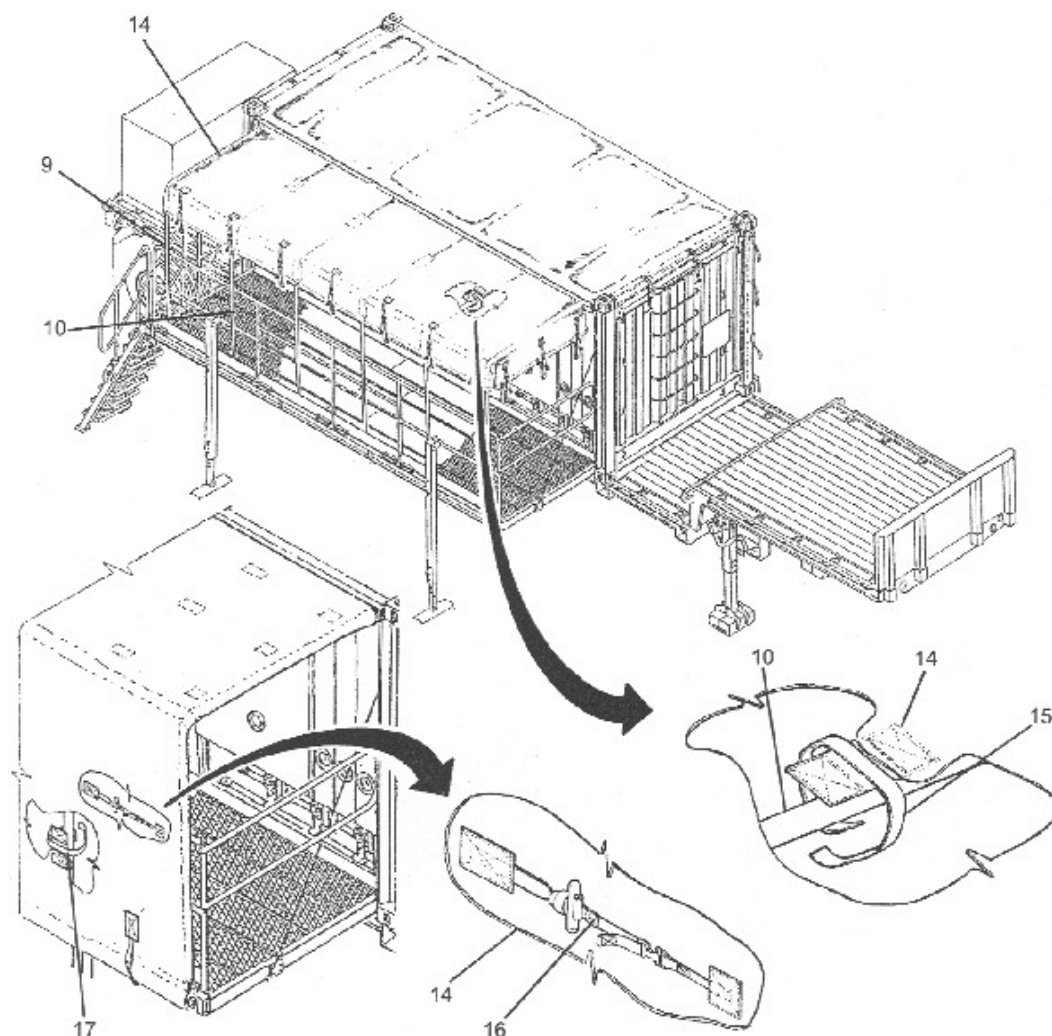

Figure 3-42
- c. Install six awning supports (9) as follows:
- (1) Loosen and remove straps (10) securing awning supports (9) together.
- (2) Insert t-bolt (11) into front support (12).
- (3) Rotate awning support (9) downward and mate with railing (1).
- (4) Insert quick-connect pin (13) to secure awning support (9) to railing (1).
- d. Flip front half of tarp (14) over awning supports (9) and (10).
- e. Secure front half of tarp (14) to inboard awning supports (9) with straps (15).
- f. Flip back half of tarp (14) over awning supports (9) and (10).
- g. Secure back half of tarp (14) to outside awning supports (10) with straps (16).
- h. Secure back half of tarp (14) to inside awning supports (9) with straps (17). (See Figure 3-42)